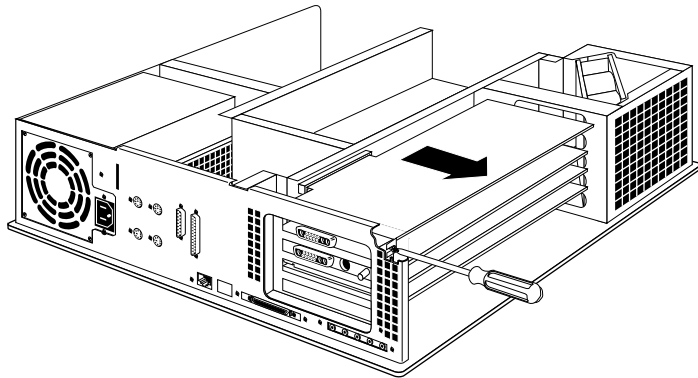

Figure 4-12 Removing the EISA Board From the Indigo² Chassis
4. Remove the screw attaching the EISA board to the system slot, as shown in Figure 4-12.